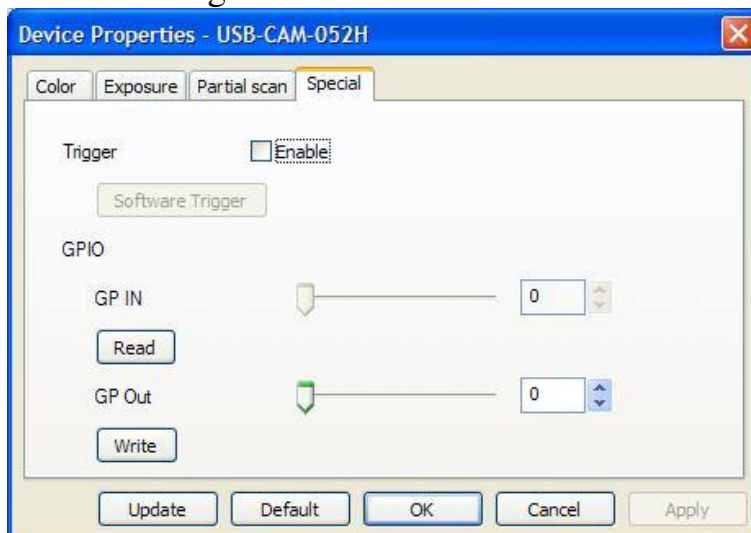

Figure 28: Camera Setting „Properties Special“
- Properties – Special (*Figure 28*)